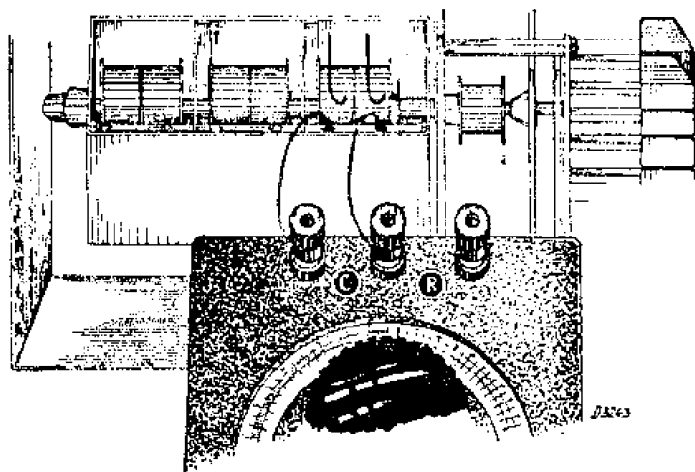

Fig. 3.
1. Unsolder the leads on C5 (see Fig. 3).